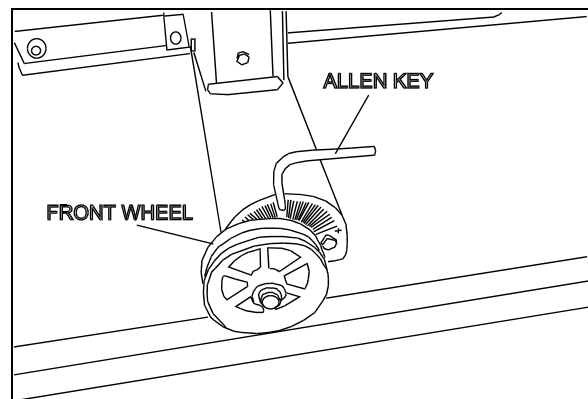

FIGURE 46: ADJUSTING HOOPY 100 LEVEL 06498
6. Using an Allen key on the front wheel, level Hoopy 100 aligner until spirit level bubble is centered (Fig. 46 and 47).